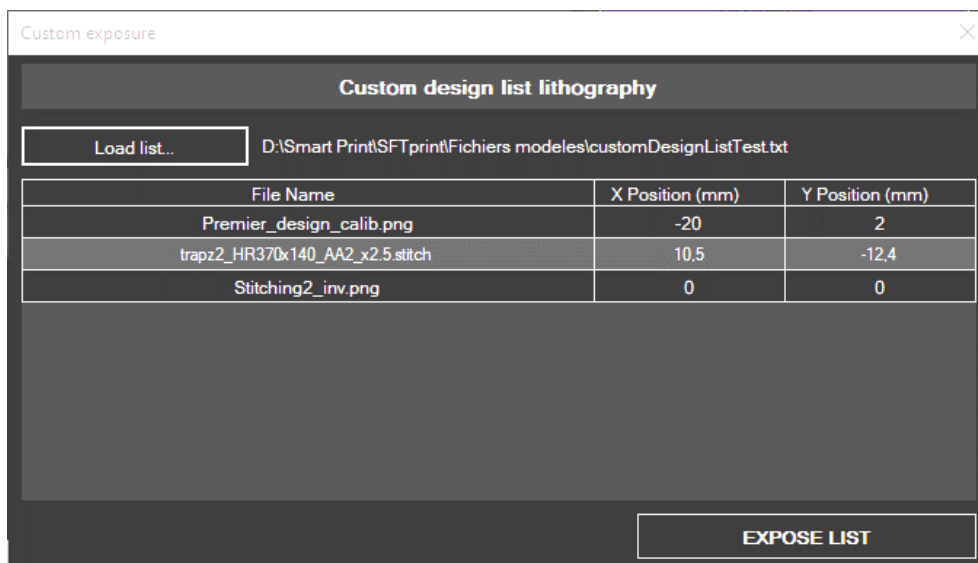
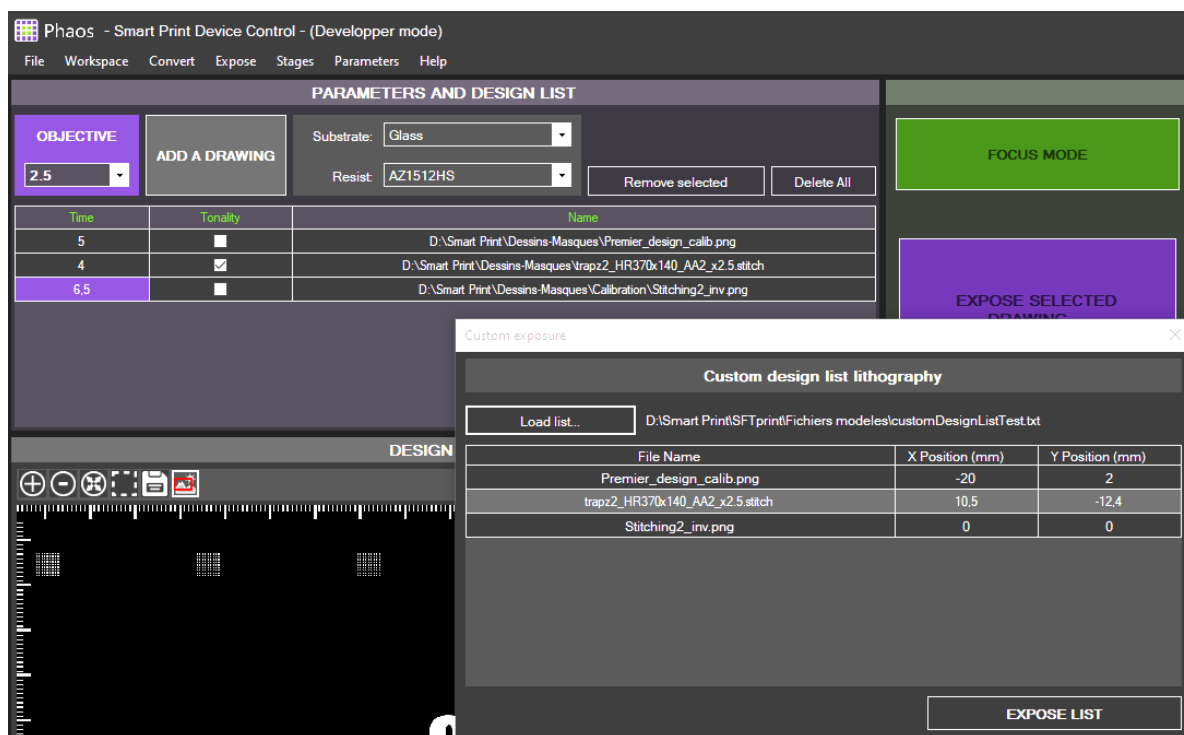

Figure 54 – Custom exposure: parameter file loaded
Figure 55 – Custom exposure: data loaded and ready for exposure
- If the parameter file contains no mistakes (drawing not found, unknown characters, etc.), the file will load on the window (Figure 54) and will update on the main window in the **PARAMETER** panel (Figure 55).
- Click on the **EXPOSE LIST** button in the **Custom exposure** window (Figure 55)